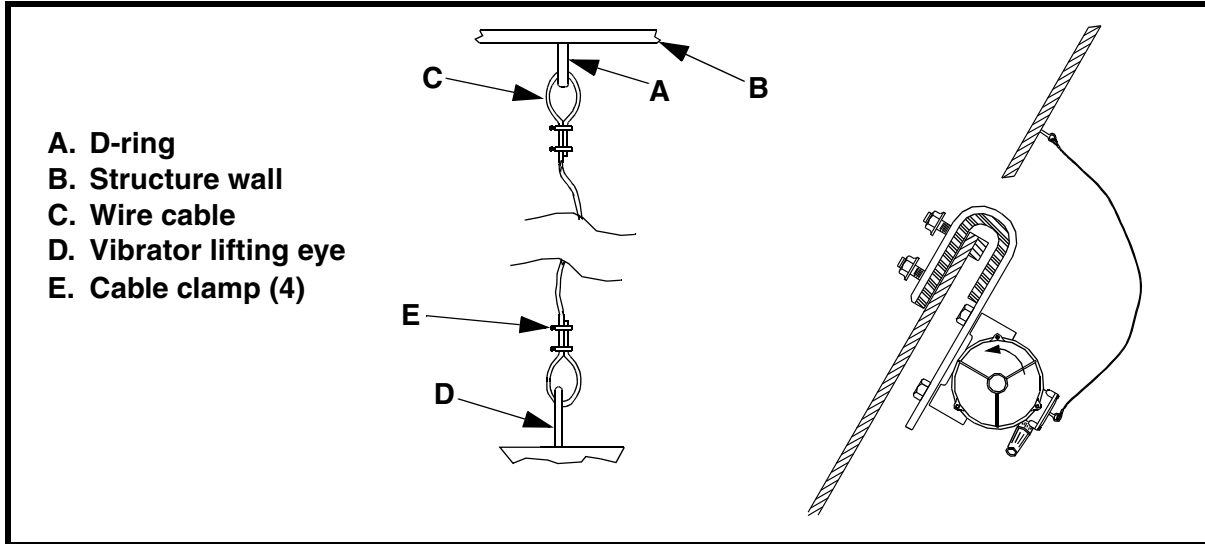

Figure 3. Installing Restraining Cable
- a. Weld D-ring (A, Figure 3) onto structure wall (B) above vibrator.